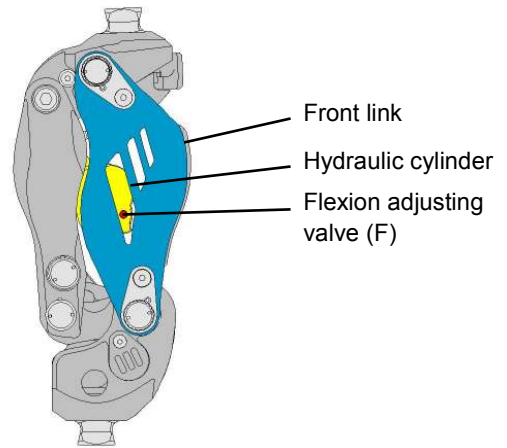
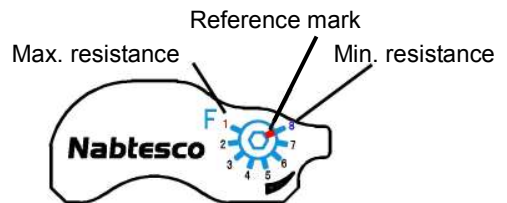

Fig. 11 Location of the Flexion Adjusting Valve
Fig. 12 Graduated Scale of the Flexion Adjusting Valve
As shown in Fig. 11, the flexion adjusting valve (F) is located on the right when viewed from the user. As shown in Fig. 12, the scale is graduated from “1” to “8”. “1” corresponds to the highest hydraulic resistance, and “8” corresponds to the lowest.